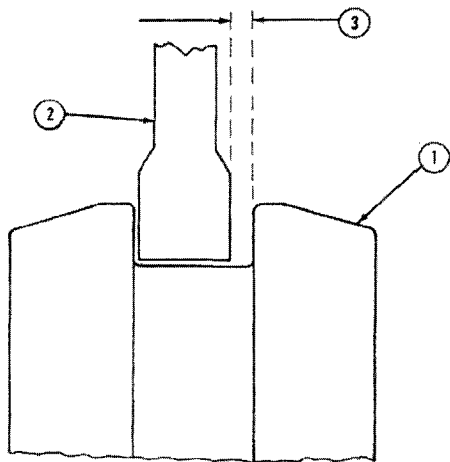

Figure 151
11. Using a feeler gauge, measure the side clearance between the shift fork and the sliding collar, Figure 151. See "Side Clearance Wear Limit Specifications," Chapter 8.